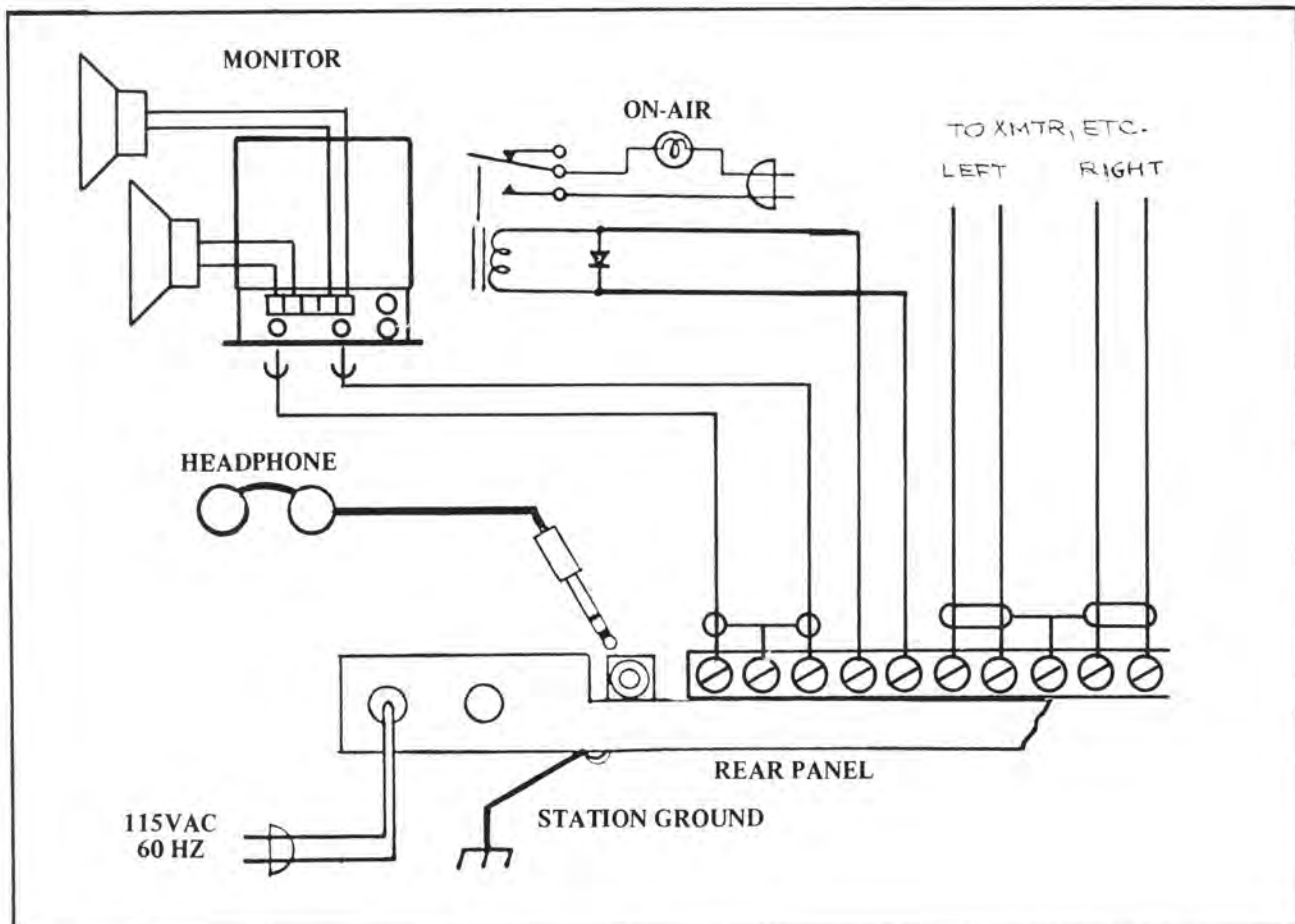

Figure 2-2 Typical Output Connections
2-20. Figure 2-2 illustrates typical output connections.
- 2-27. A diode should be placed backwards across the relay coil to speed relay release. See Fig. 2-2.
- 2-35. Connect ground lead under chassis screw located on chassis bottom, rear near the fuse holder. Use at least 18 gauge wire. Connect to station ground. See figure 2-2.